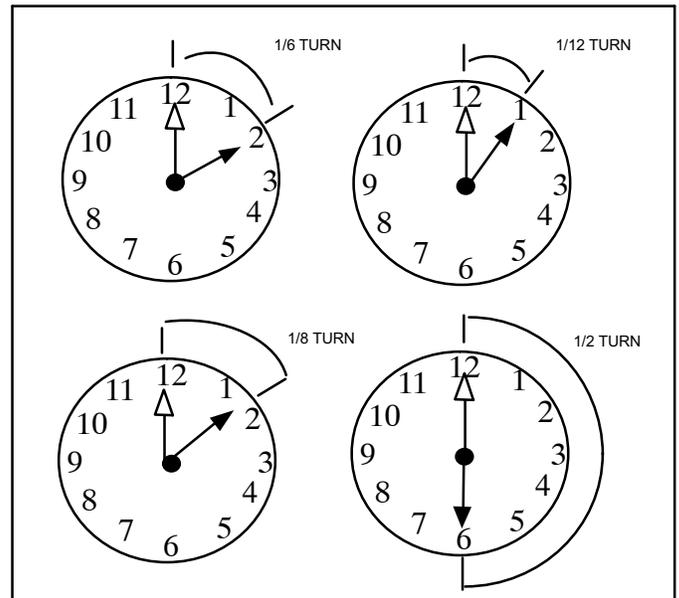

Figure 2. Tightening Distance
- *Without Torque Wrench:* Finger tighten and use an appropriately sized wrench to turn an additional 1/6 turn clockwise as illustrated in figure 2.
- *Without Torque Wrench:* Finger tighten and use an appropriately sized wrench to turn an additional 1/12 turn clockwise as illustrated in figure 2.